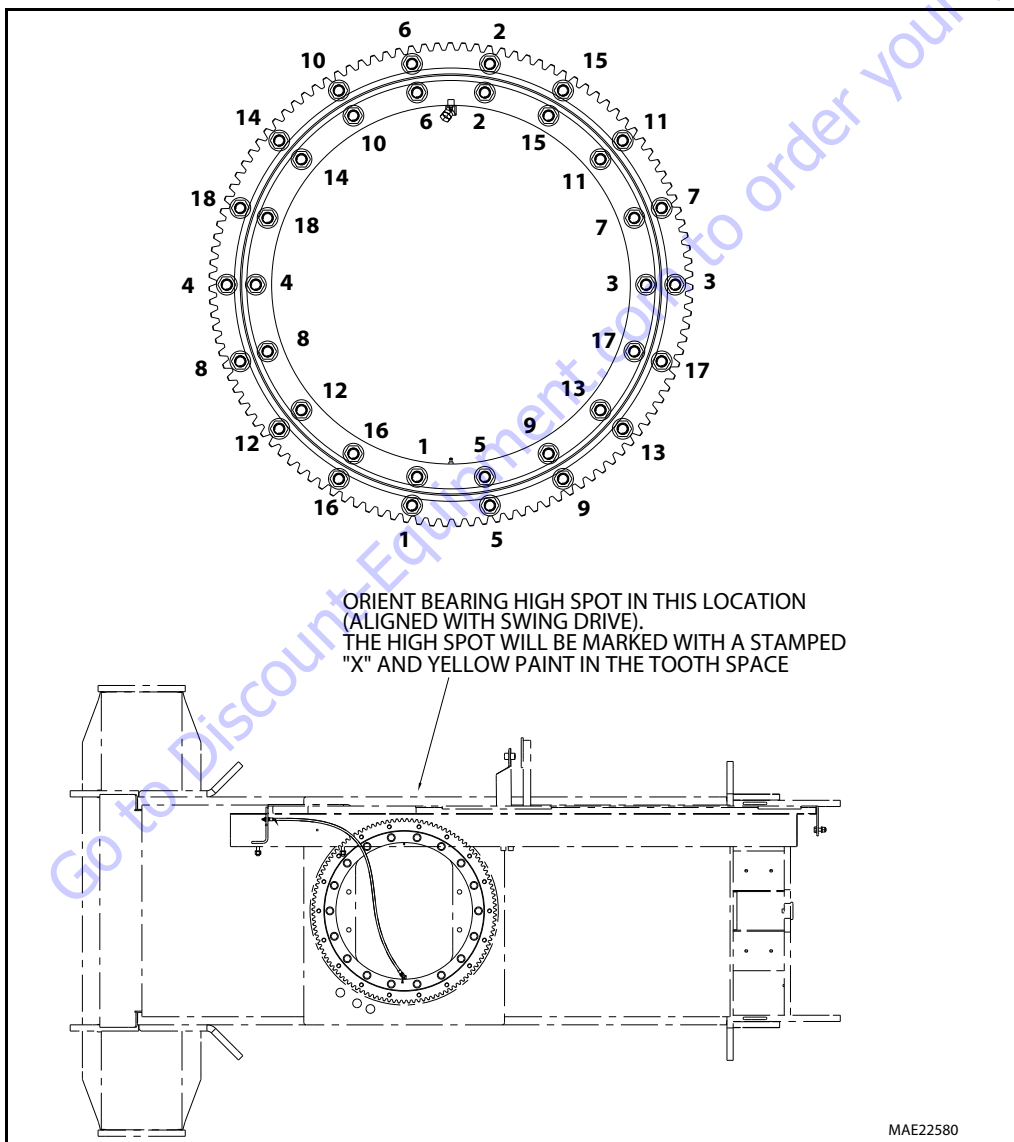

Figure 3-13. Swing Bearing Torque Sequence
3. Refer to the Torque Sequence diagram as shown in Figure 3-13., Swing Bearing Torque Sequence, Swing Bearing Torque Sequence Clean any residue off the new bearing bolts, then apply a light coating of High Strength Threadlocking Compound and install the bolts and washers through the frame and outer race of the bearing. Tighten the bolts to an initial torque of 190 ft. lbs. (260 Nm) w/Threadlocking Compound.
8. Following the Torque Sequence diagram shown in Figure 3-13., Swing Bearing Torque Sequence, tighten the bolts to a torque of 190 ft. lbs. (260 Nm) w/Threadlocking Compound.
3. See Figure 3-13., Swing Bearing Torque Sequence.